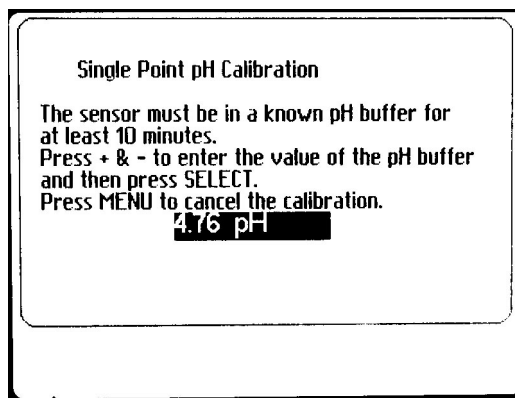

Figure 38 - Single Point pH Calibration
4. From the SINGLE POINT pH CALIBRATION screen (Figure 38), use the + or – keys to change the pH value to agree with the buffer value. Press SELECT when done.